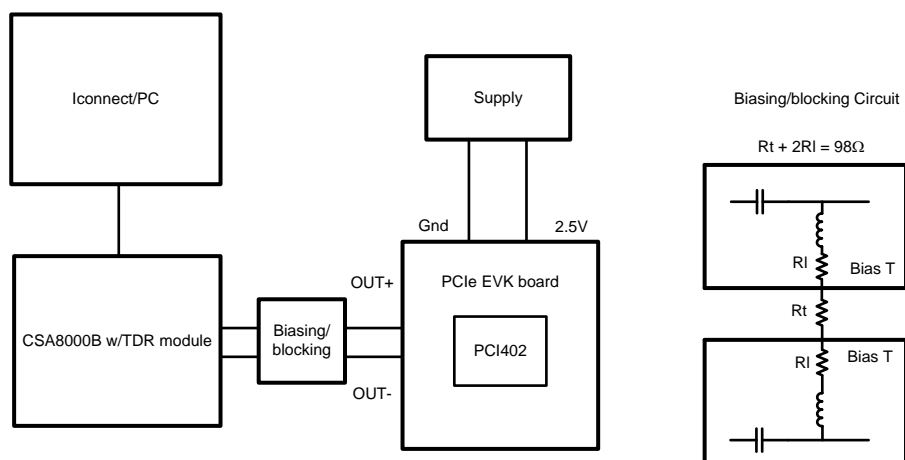

Figure 6. Input and Output Return Loss Setup
- (1) Typical values represent most likely parametric norms at V_{DD} = 2.5V, T_A = 25°C., and at the Recommended Operation Conditions at the time of product characterization and are not ensured.
- (2) The Electrical Characteristics tables list ensured specifications under the listed Recommended Operating Conditions except as otherwise modified or specified by the Electrical Characteristics Conditions and/or Notes. Typical specifications are estimations only and are not ensured.
- (3) Measured with DEM Select pins configured for 1000mV VOD, see De-emphasis table.
- (4) Input edge rate for LVC MOS/FLOAT inputs must be 50ns minimum from 10-90%.
- (5) Input Return Loss also uses the setup shown in Figure 6. The blocking / biasing circuit is replaced with a simple AC coupling capacitor for each input to emulate a typical PCIe application.
- (6) Measured at package pins of receiver. Less than 40mV is IDLE, greater than 175mV is ACTIVE. SD_TH pin connected with resistor to GND overrides this default setting.